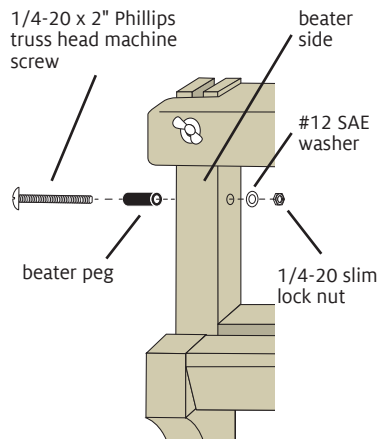

FIGURE 4: INSTALLING BEATER PEGS
8. Insert a 1/4-20 x 2" Phillips truss head machine screw through a 1" plastic beater peg, then through the beater side from its outer side (Figure 4).